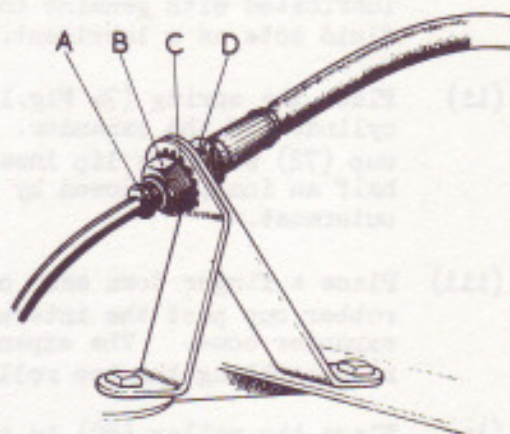

FIG. 10. SHOWING HOW FLEXIBLE HOSE IS ATTACHED TO PIPE-LINE FROM MASTER CYLINDER.
Unscrew the tube nut (A Fig. 10). Hold the connection (D) with a spanner and unscrew the nut (B) with a second spanner. remove the washer (C) and then withdraw the hose from the bracket.